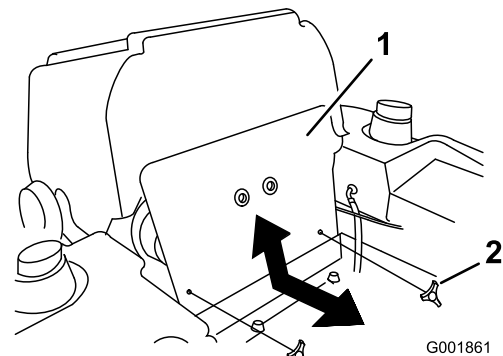

Figure 71
3. Tilt the seat forward and remove the front engine panel (Figure 71).
- Install the front engine panel (Figure 71).